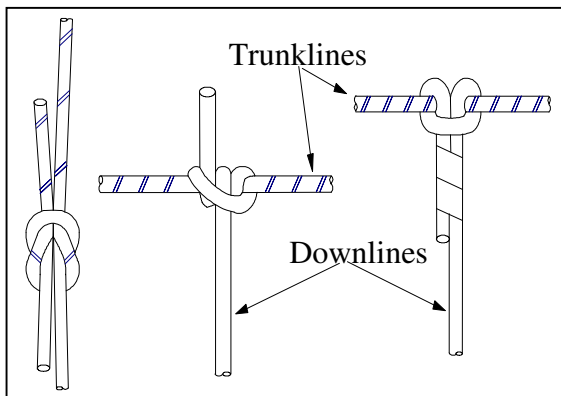

Figure 1: Approved knots, from left to right: Reef knot, Double wrap clove hitch Double half hitch.
*Cordtex™ 5P* can be reliably initiated by detonating cords of 5g/m or greater core charge when approved connections are used. For extending surface trunklines, cord should be tied together with a "reef" knot (Figure 1). The knot should be 150mm from each cut end and pulled tight, with the free ends taped back along the cord to ensure positive contact.
For attaching downlines and branchlines to a surface trunkline, connections should be made using an approved knot (Figure 1).